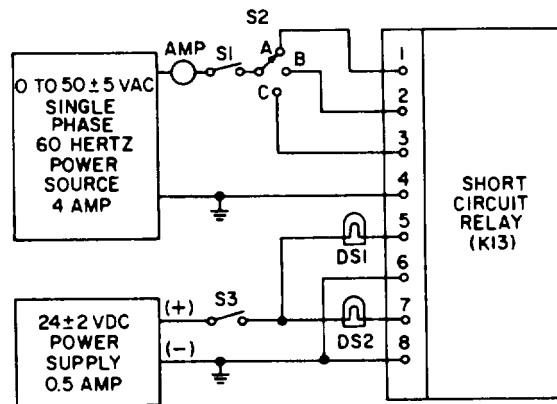

Figure 6-44. Short Circuit Relay (K13) test setup
a. Connect the short circuit relay to the test equipment as illustrated in figure 6-44.